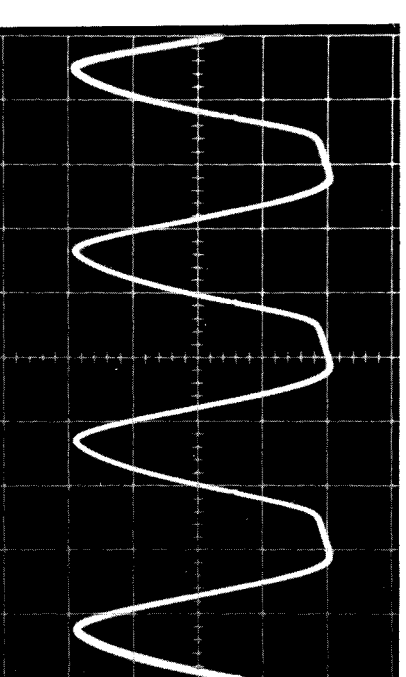

Fig. 26—Sine wave signal with 15% clipping.
- The EIA specifies that the audio output power is the point at which 15% clipping is present. To determine this power point, connect an oscilloscope across the SPEAKER SUB connection and increase the volume control until about 15% clipping is shown. Fig. 26 shows a sine wave with 15% clipping.